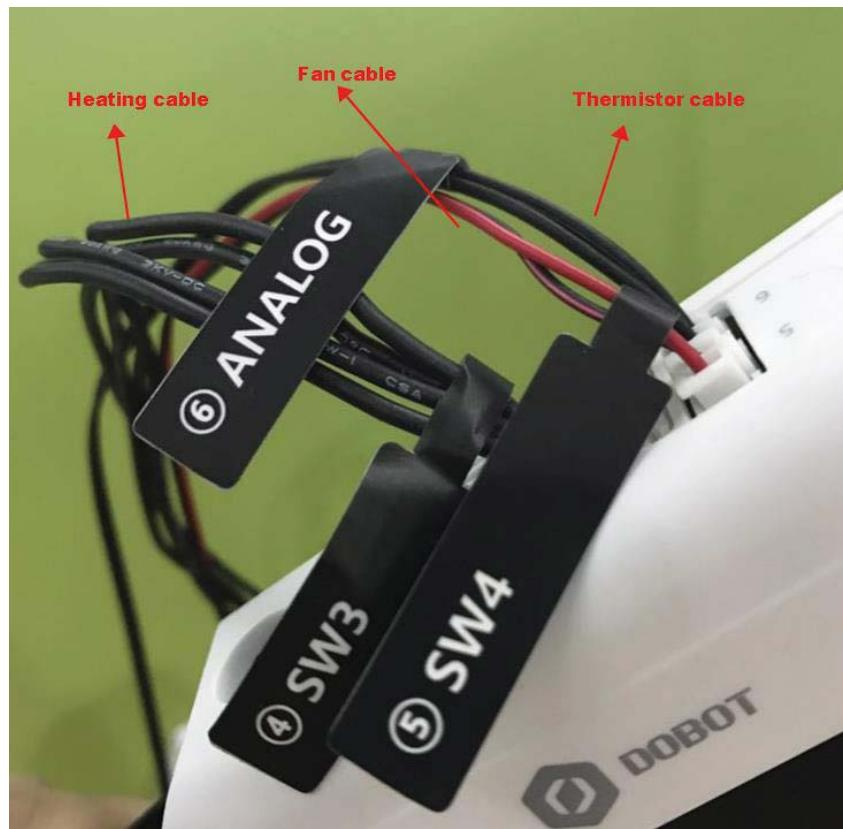

Figure 5.121 Connect hot end to the Forearm
**Step 5** Insert the heating cable to the interface **4** on the Forearm, the fan cable to the interface **5** and the thermistor cable to the interface **6**, as shown in Figure 5.121.